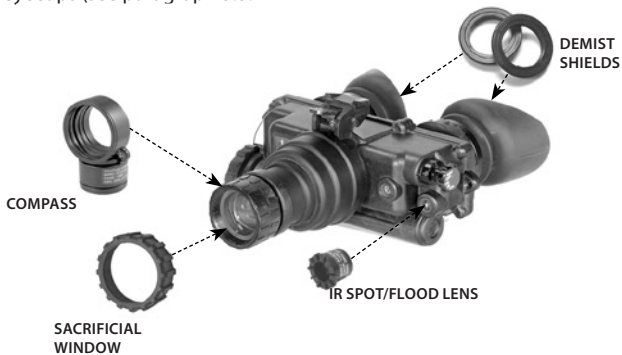

FIGURE 3-3. INSTALLATION OF DEMIST SHIELDS, SACRIFICIAL WINDOW
D. Installation of the Demist Shields. Perform the following procedure to install the demist shields on the diopter lenses. Refer to Figure 3-3.
E. Installation of the Sacrificial Window. Perform the following procedure to install the sacrificial window. Refer to Figure 3-3.